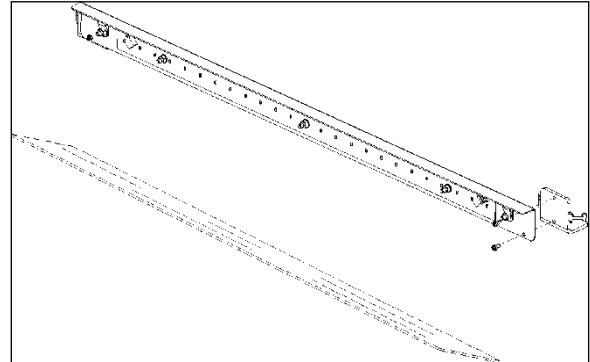

FIGURE 129: LED DIRECT LIGHTING AND LENS
2. Using a Phillips head screwdriver, unscrew and remove the existing LED strip (FIGURE 129).